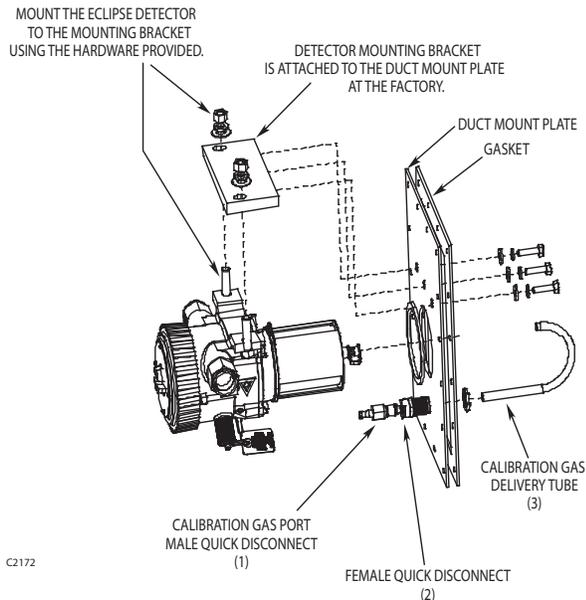

Figure 3—Duct Mount with PointWatch Eclipse Detector (Vertical Shown)
The assembly mounts directly to a flat duct wall surface as shown in Figure 3. Seal gaskets are provided to ensure that leakage does not occur.
1. Attach the PointWatch Eclipse detector to the mounting bracket using the hardware provided. See Figure 3.